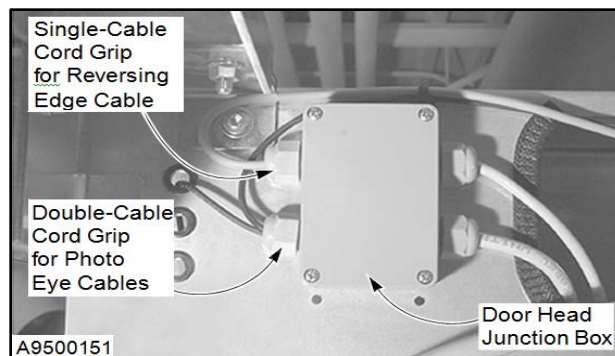

Figure 20
3. Remove the cover from the door head junction box located above the drive motor assembly. (See Figure 20.)